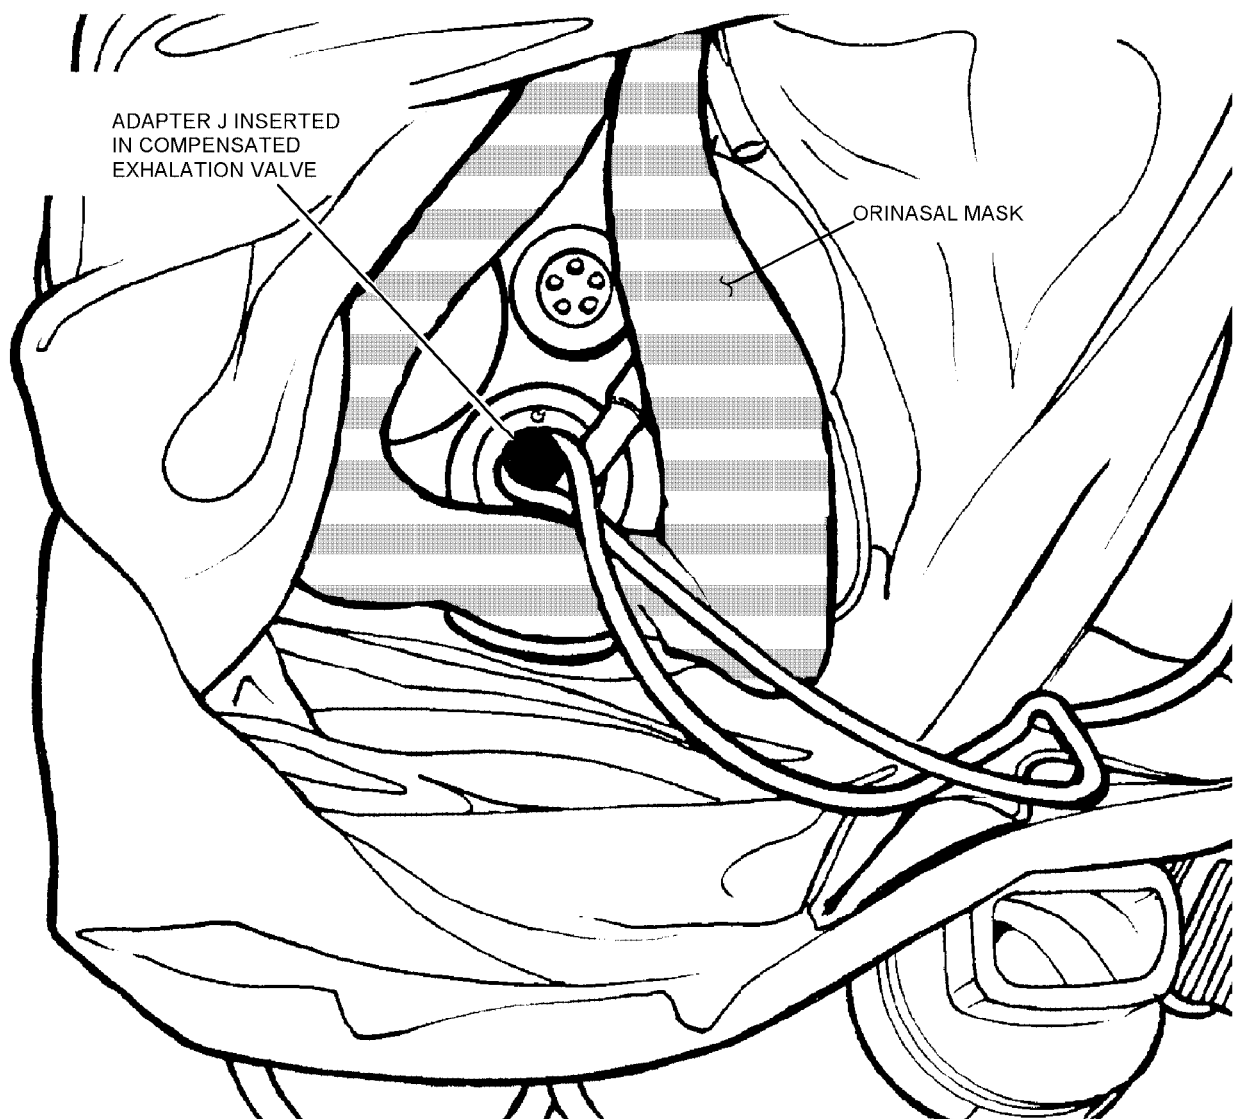

Figure 4-81. Inverted Hood
3. Invert hood and prop open compensated exhalation valve (inside original mask) using adapter J (figure 4-81).